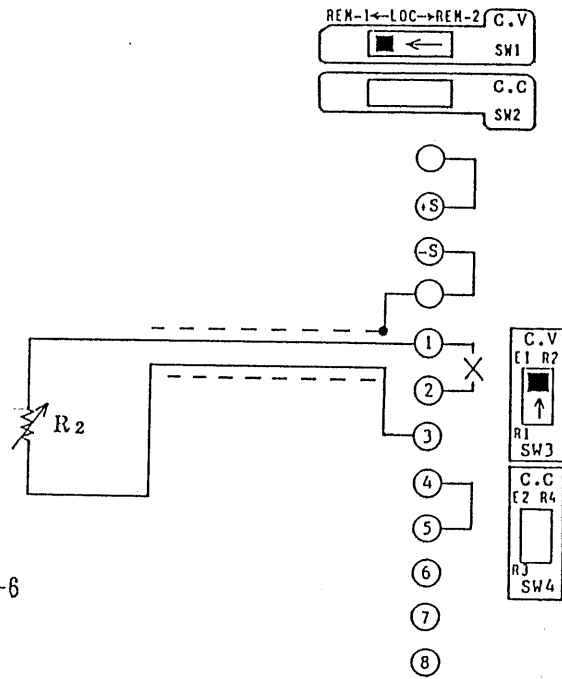

Figure 4-6
- (1) Turn off the POWER switch.
- (2) Throw the SW1 switch on the rear panel to REM-1.
- (3) Throw the SW3 switch on the rear panel to R2.
- (4) Disconnect the jumper from between terminals ① and ② of the rear terminal block.
- (5) Connect a control resistor (R2) between terminals ① and ③.
- (6) Regarding the switches for which no settings are specified in Figure 4-6, set them to the standard states as shown in Figure 2-25 (See Section 2.4.) or to appropriate states for respective modes (See Sections 4.1 through 4.11.).